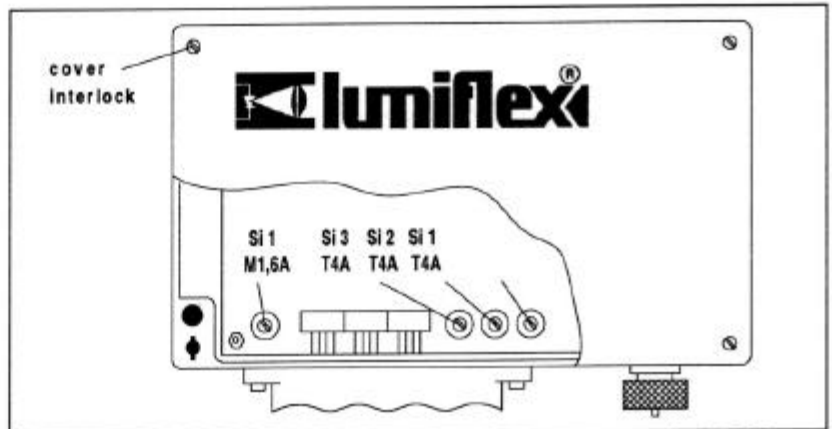

Figure 13-1 The fuses for the mains and switching output in BASIS
3. Insert the smaller screw driver into the groove of the safety cap. press downwards and unscrew interlock with a 90° anti-clockwise turn (Figure 13-1).